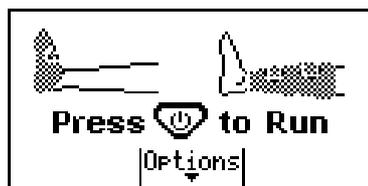

Figure 7 - LCD Display - Different Garments Connected
4.10.2 Check on the display panel to confirm the garment types connected (Refer to Figure 7).